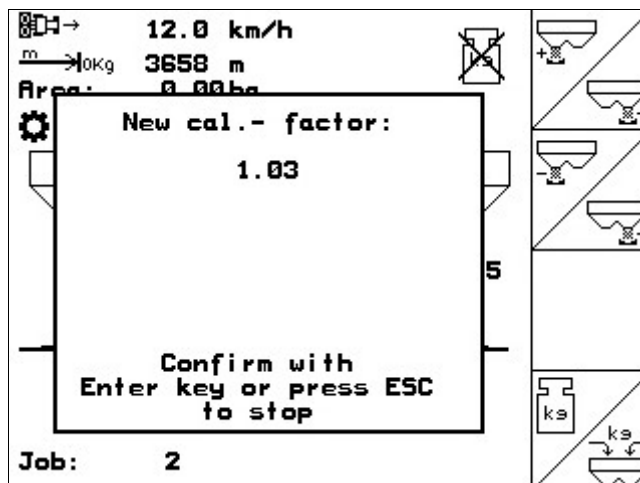

Fig. 39
- The new calibration factor is shown and confirmed with  or rejected with  (Fig. 39).